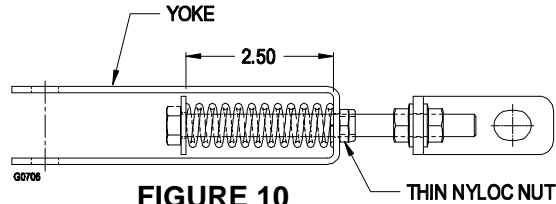

FIGURE 10
- c) Disengage the park brake. Measure the length of the park brake spring. The spring should measure 2.5" (6.4cm). See Figure 10.